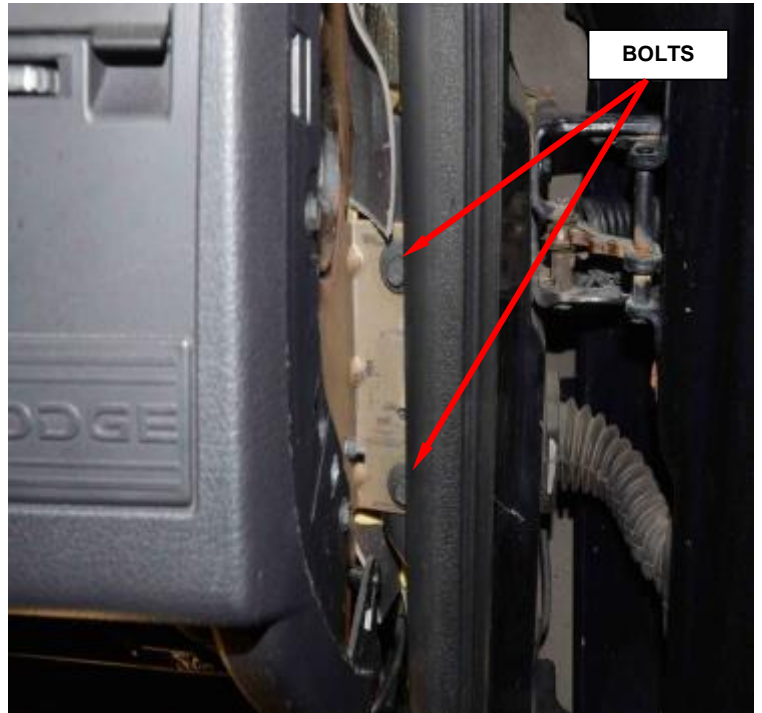

Figure 65 - Right Side Support Bolts
- 32. Remove the right side support bolts and with the help of another person, remove the instrument panel assembly from the vehicle and place on a soft clean surface (Figure 65).